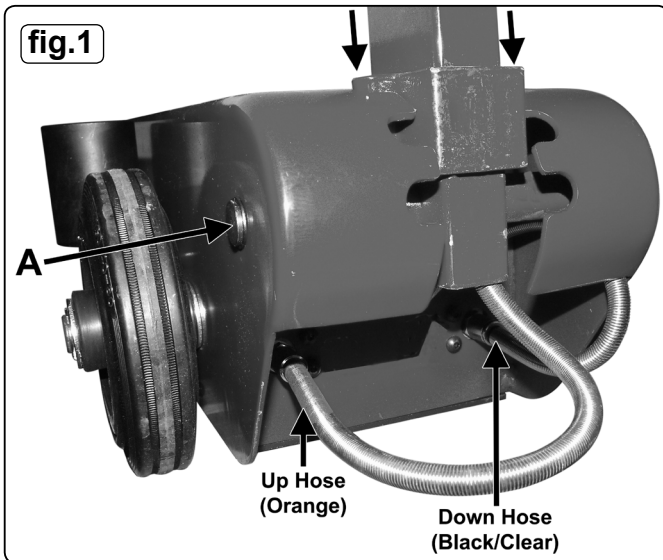

fig.1
- 4.2.2. The hose marked orange must be screwed into the left-hand side. The hose marked black or clear into the right-hand side. (fig.1).